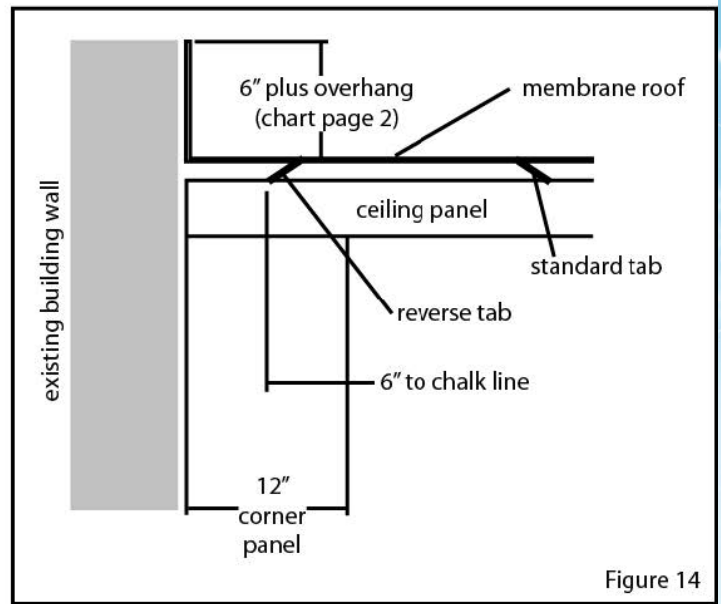

Figure 14
1. The length of your roofing material will be 6" longer than the length shown in the chart on page 2. These 6 inches are added to the reverse tab side. See Figure 14.